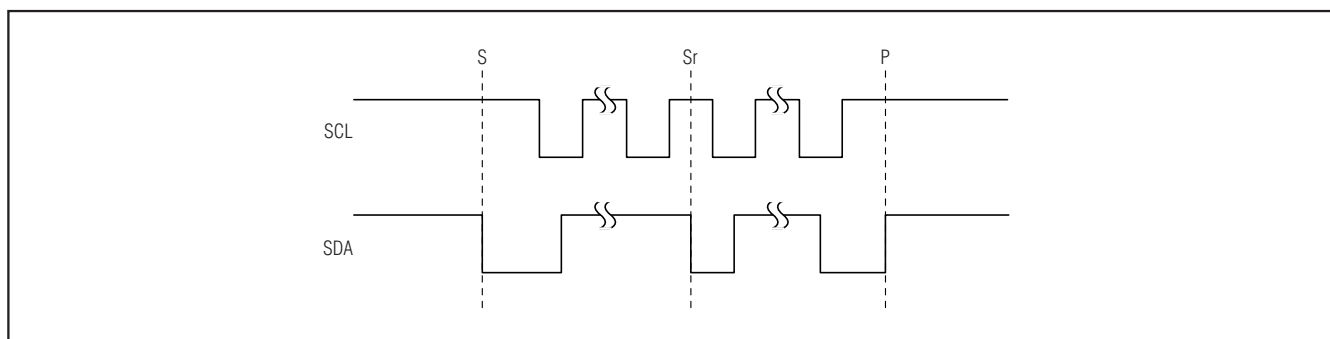

Figure 7. START (S), STOP (P), and REPEATED START (Sr) Conditions
SDA and SCL idle high when the bus is not in use. A master initiates communication by issuing a START (S) condition. A START condition is a high-to-low transition on SDA with SCL high. A STOP (P) condition is a low-to-high transition on SDA while SCL is high (Figure 7). A START condition from the master signals the beginning of a transmission to the MAX9860. The master terminates transmission, and frees the bus, by issuing a STOP condition. The bus remains active if a REPEATED START (Sr) condition is generated instead of a STOP condition.